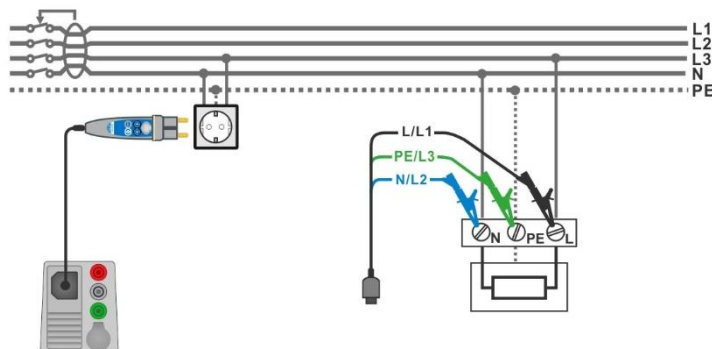

Figure 7.132: AUTO TN (RCD) measurement
- › Connect 3-wire test lead or Plug commander to the object under test, see **Figure 7.132**.